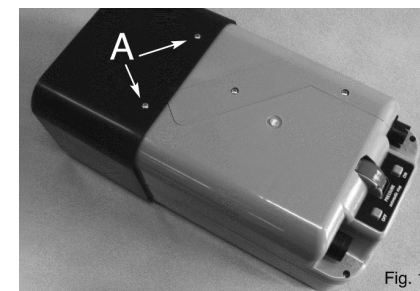

Fig. 1
To prevent accidental start-up during transport, the battery is disconnected. Before operating, open the battery compartment by unscrewing the 4 screws "A" (Figure 1) and connect the red cable to the battery positive terminal and the black cable to the negative one. Then close by screwing.
2. Connect the air hose to the outlet port, in the direction of the arrow pointing outwards from the inflator (**SEE FIGURE 1 ON PAGE 9**).
5. Start inflating by pressing the power button (**SEE FIGURE 1 ON PAGE 9**).
1. Connect the hose to the suction port, in the direction of the arrow pointing inwards from the inflator (**SEE FIGURE 1 ON PAGE 9**).
3. Start deflating by pressing the power button (**SEE FIGURE 1 ON PAGE 9**).
4. The inflator stops automatically when a pressure of -40/-50 mbar is reached. However, deflation can be stopped by pressing the shutdown button (**SEE FIGURE 1 ON PAGE 9**).